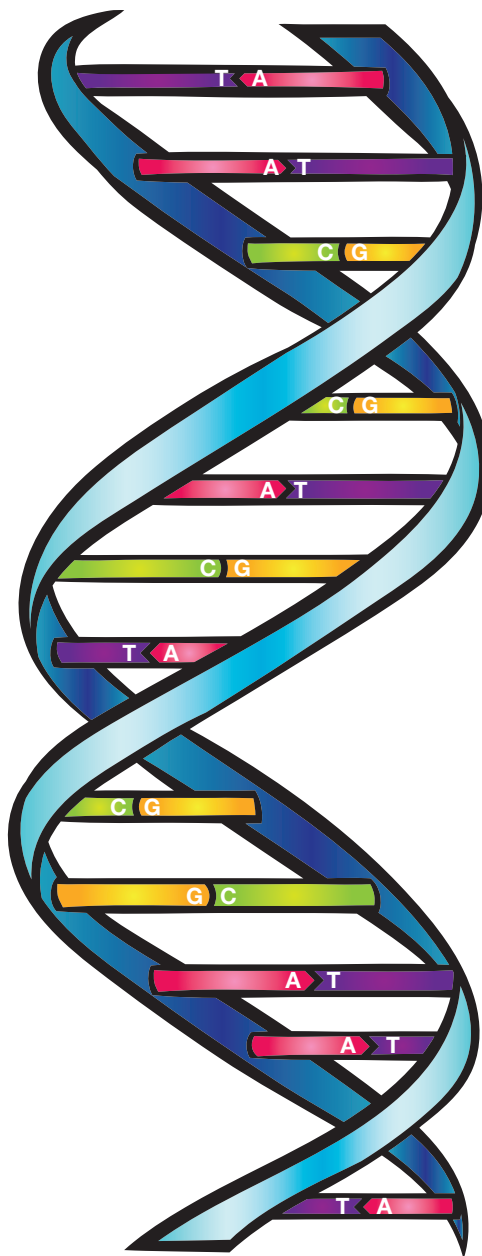

Figure 2. Double helix structure of DNA showing paired nitrogenous bases represented by letters G, C, A, and T
When chromosomal DNA is unfolded and the proteins coating it removed, the structure of DNA is exposed as a twisted ladder called a double helix. The sides of the ladder form the DNA backbone with alternating sugar and phosphate molecules linked by covalent bonds. The rungs of the ladder are comprised of pairs of nitrogenous bases [adenine (A) with thymine (T) and cytosine (C) with guanine (G)] joined by hydrogen bonds (Figure 2). Although the structure of DNA is well known and clearly defined, even the most powerful microscopes cannot visualize the DNA double helix of chromosomes.